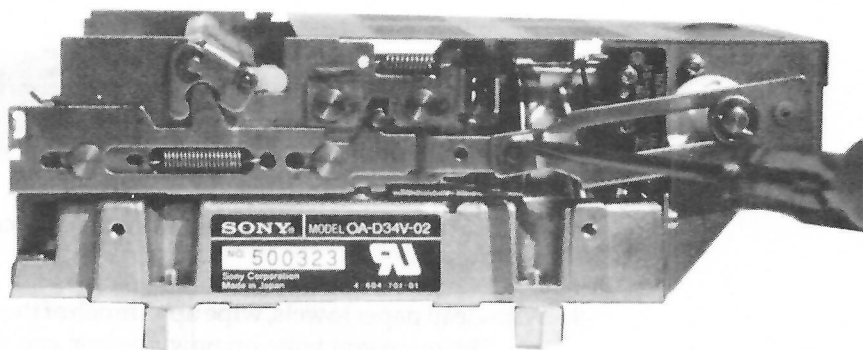

Figure 13-18 C-ring removal.
5. Use a small 1/8-inch slotted screwdriver to remove the C-ring shown in Figure 13-18.